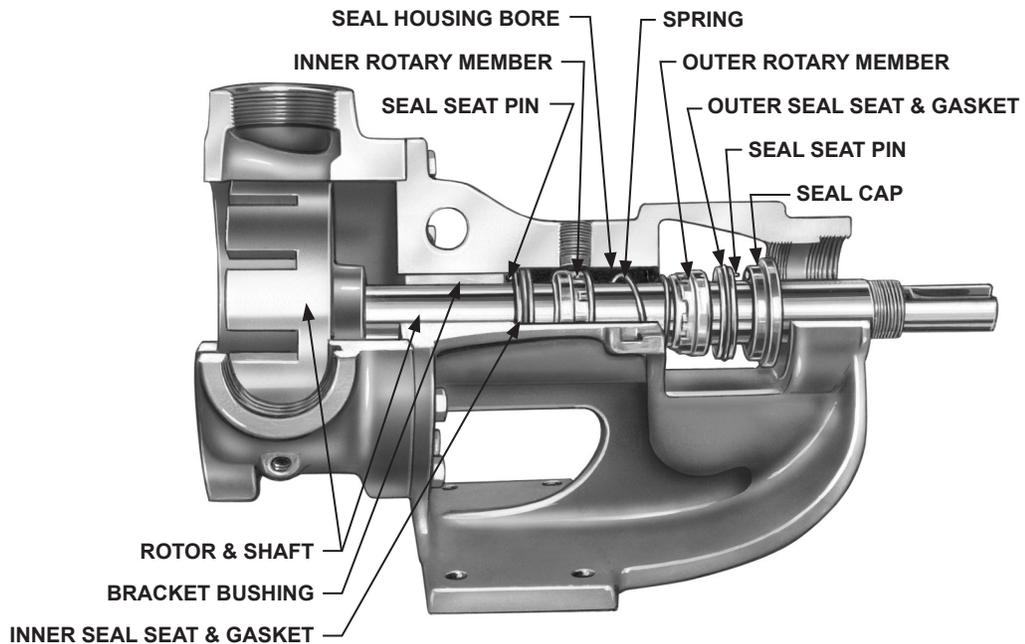

FIGURE 11
See figure 11. The mechanical seal consists of five basic parts. They are: inner and outer seal seats with O-ring gaskets; inner and outer rotary members; and spring. When pump is running, the seal cap and inner and outer seal seats with O-ring gaskets remain stationary in the bracket seal housing bore; the inner and outer rotary members turn with the shaft.
1. Installing a new seal: The seal is simple to install and good performance will result if care is taken in installation, **see figure 11, page 9** for parts identification.
9. Clean and oil the I.D. of the inner rotary member, place on shaft and slide over the tapered installation sleeve into position against the inner seal seat. Push against the rubber tail section of the bellows with a sleeve or smooth piece of pipe having an inside diameter no more than $\frac{1}{32}$ inch larger than the shaft diameter and a wall thickness of at least $\frac{1}{8}$ inch. Be sure to install correct end against seal seat, **see figure 11, page 9**. Be sure carbon face does not fall out of the rotary member.
12. Coat the inside diameter of the outer rotary member with light Refrigeration Oil. Place it on the shaft and slide over the tapered installation sleeve until it engages the spring. Be sure to install the correct end towards the spring, **see figure 11, page 9**.